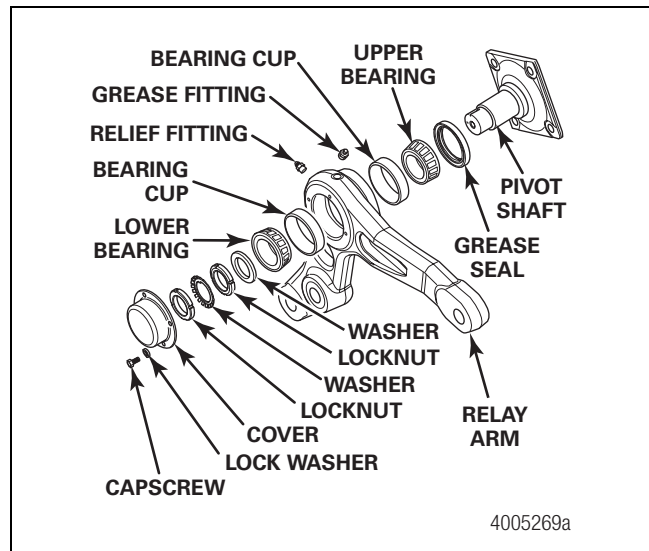

Figure 5.18
8. Repeat the procedure to disassemble the relay arm. Figure 5.18.